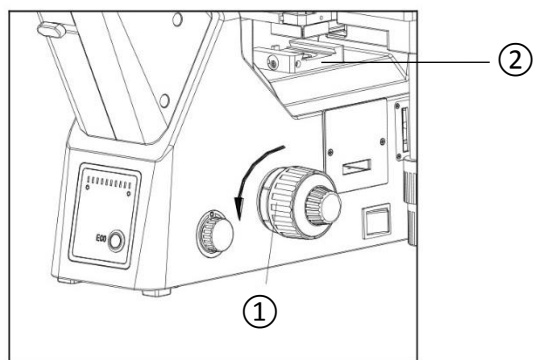

Fig. 2
### Installing the Objectives (Fig. 2, 3 & 4)
Turn the coarse adjustment knob ① (Fig. 2) until the nosepiece is at its lowest position.